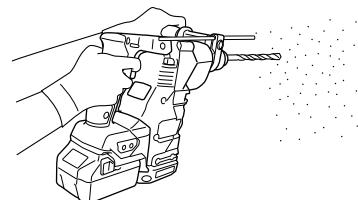

Fig. 21
- (1) Mount the drill bit.
- (2) Pull the trigger switch after applying the drill bit tip to the drilling position. (Fig. 21)
- (3) Pushing the rotary hammer forcibly is not necessary at all. Pushing slightly so that drill dust comes out gradually is just sufficient.
When the drill bit touches construction iron bar, the bit will stop immediately and the rotary hammer will react to revolve. Therefore please grip the side handle and handle tightly as shown in Fig. 21.